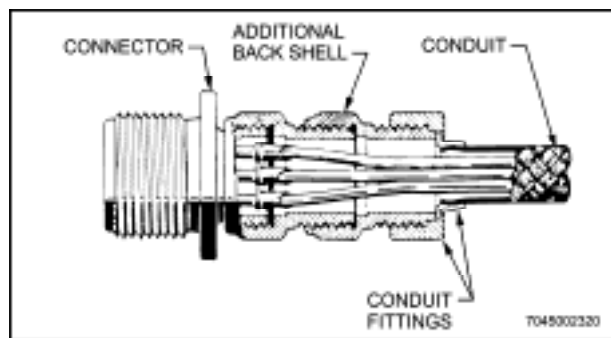

Figure 4-30 Installing Conduit on Connector Back Shell
85. When installing a stepped-down conduit on the back shell of a connector having large wires (size No. 8 or larger), add an additional back shell to the connector before installing the conduit. This will allow the wire bundle to decrease in diameter gradually and prevent sharp bends in the wires. (See Figure 4-30)